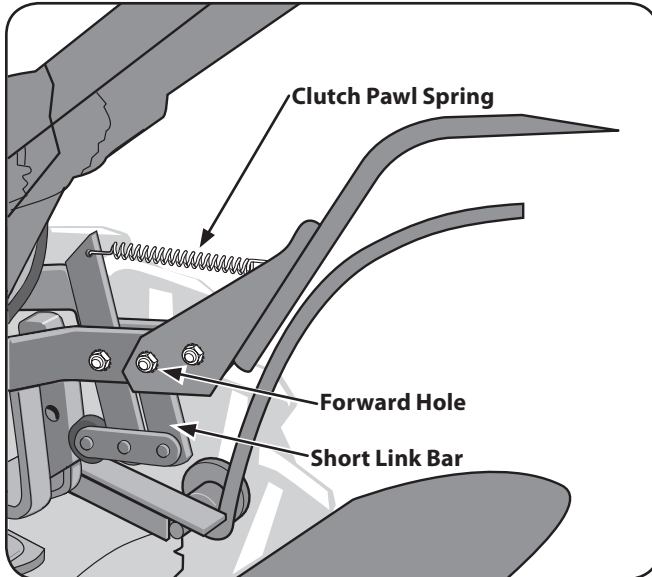

Figure 3-10
6. Pull the Wheels/Tines/PTO Lever back to align the forward most holes in the yoke plate with the holes in the lever plates. Also align the bushing that is inside the short link bar. Install the screw, star washer, and nut, then tighten securely. Securely tighten all other hardware. Also ensure that the spring is properly seated at both ends. Completed assembly should appear as illustrated in Figure 3-10.